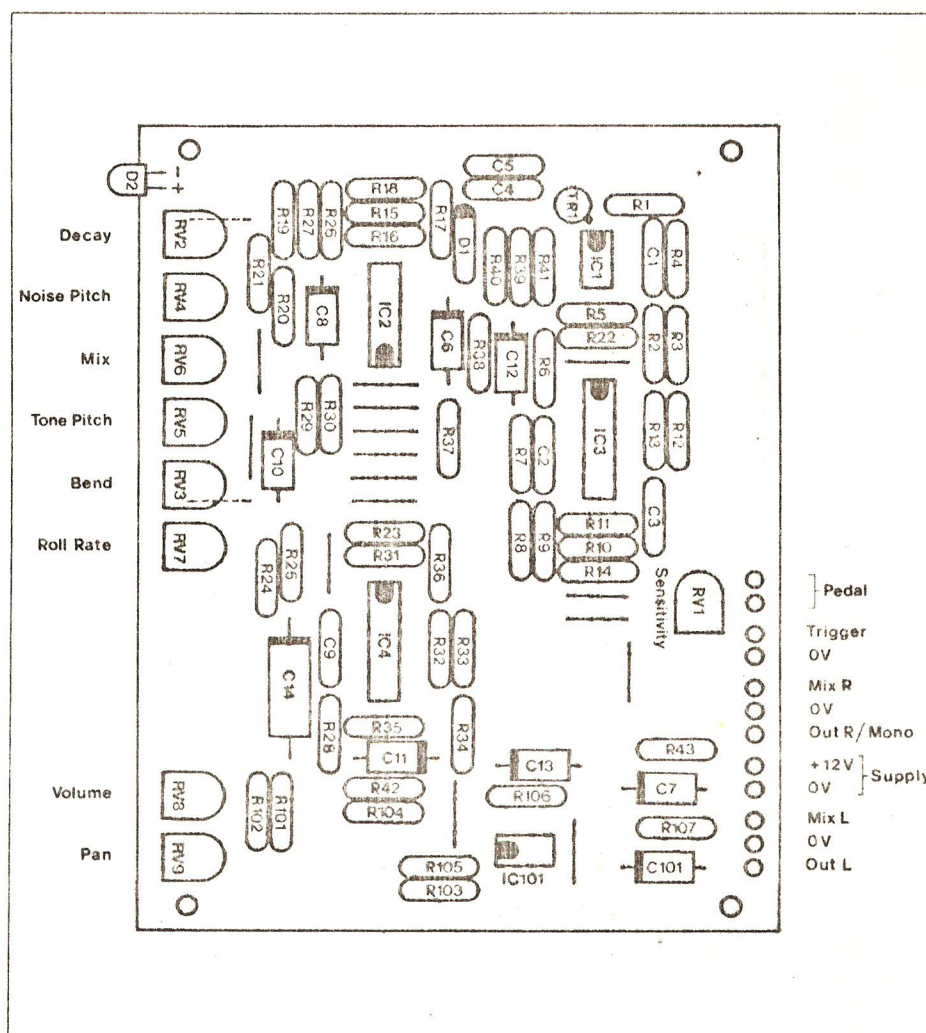

Figure 3: Component overlay of the PCB.
2) *Vertical Pre-sets* - The pre-sets can be mounted vertically, as shown in the photo. An extra 2 links must be inserted if this is the case, shown dotted in Figure 3. Boards can then be slotted into a case with the left hand edges at the front allowing occasional adjustments to be made.